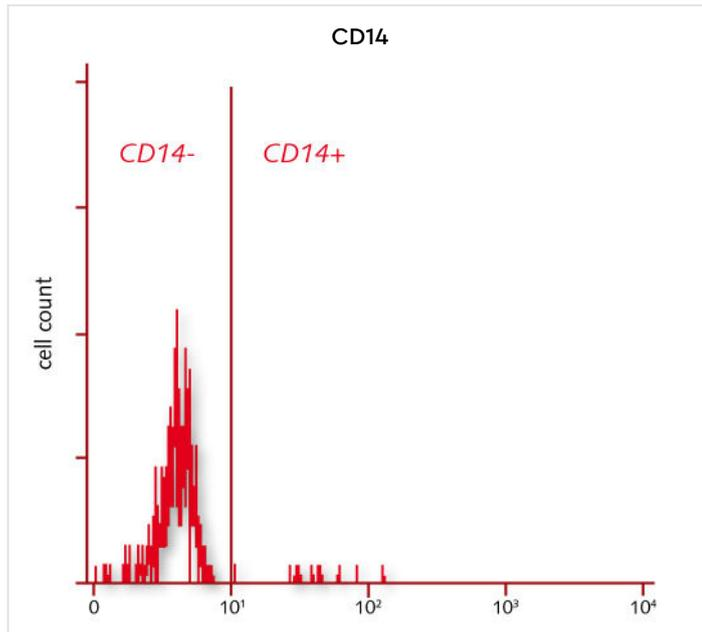

Fig. 4: Flow-cytometry analysis of day 8 mature moDCs generated in the PromoCell DC Generation Medium. More than 98% of the cells are negative for CD14.\*
**Note:** Mature moDCs generated in the PromoCell DC Generation Medium XF supplemented with the Cytokine Pack moDC exhibit a CD14-/CD45+/CD83+ phenotype (see Fig. 4 and 5).
**Note:** Mature moDCs generated in the PromoCell DC Generation Medium supplemented with the Cytokine Pack moDC exhibit a CD14+/CD45+/CD83+ phenotype (see Fig. 4 and 5).
**Note:** Mature moDCs generated in the PromoCell DC Generation Medium supplemented with the Cytokine Pack DC exhibit a CD14-/CD45+/CD83+ phenotype (see Fig. 4 and 5).